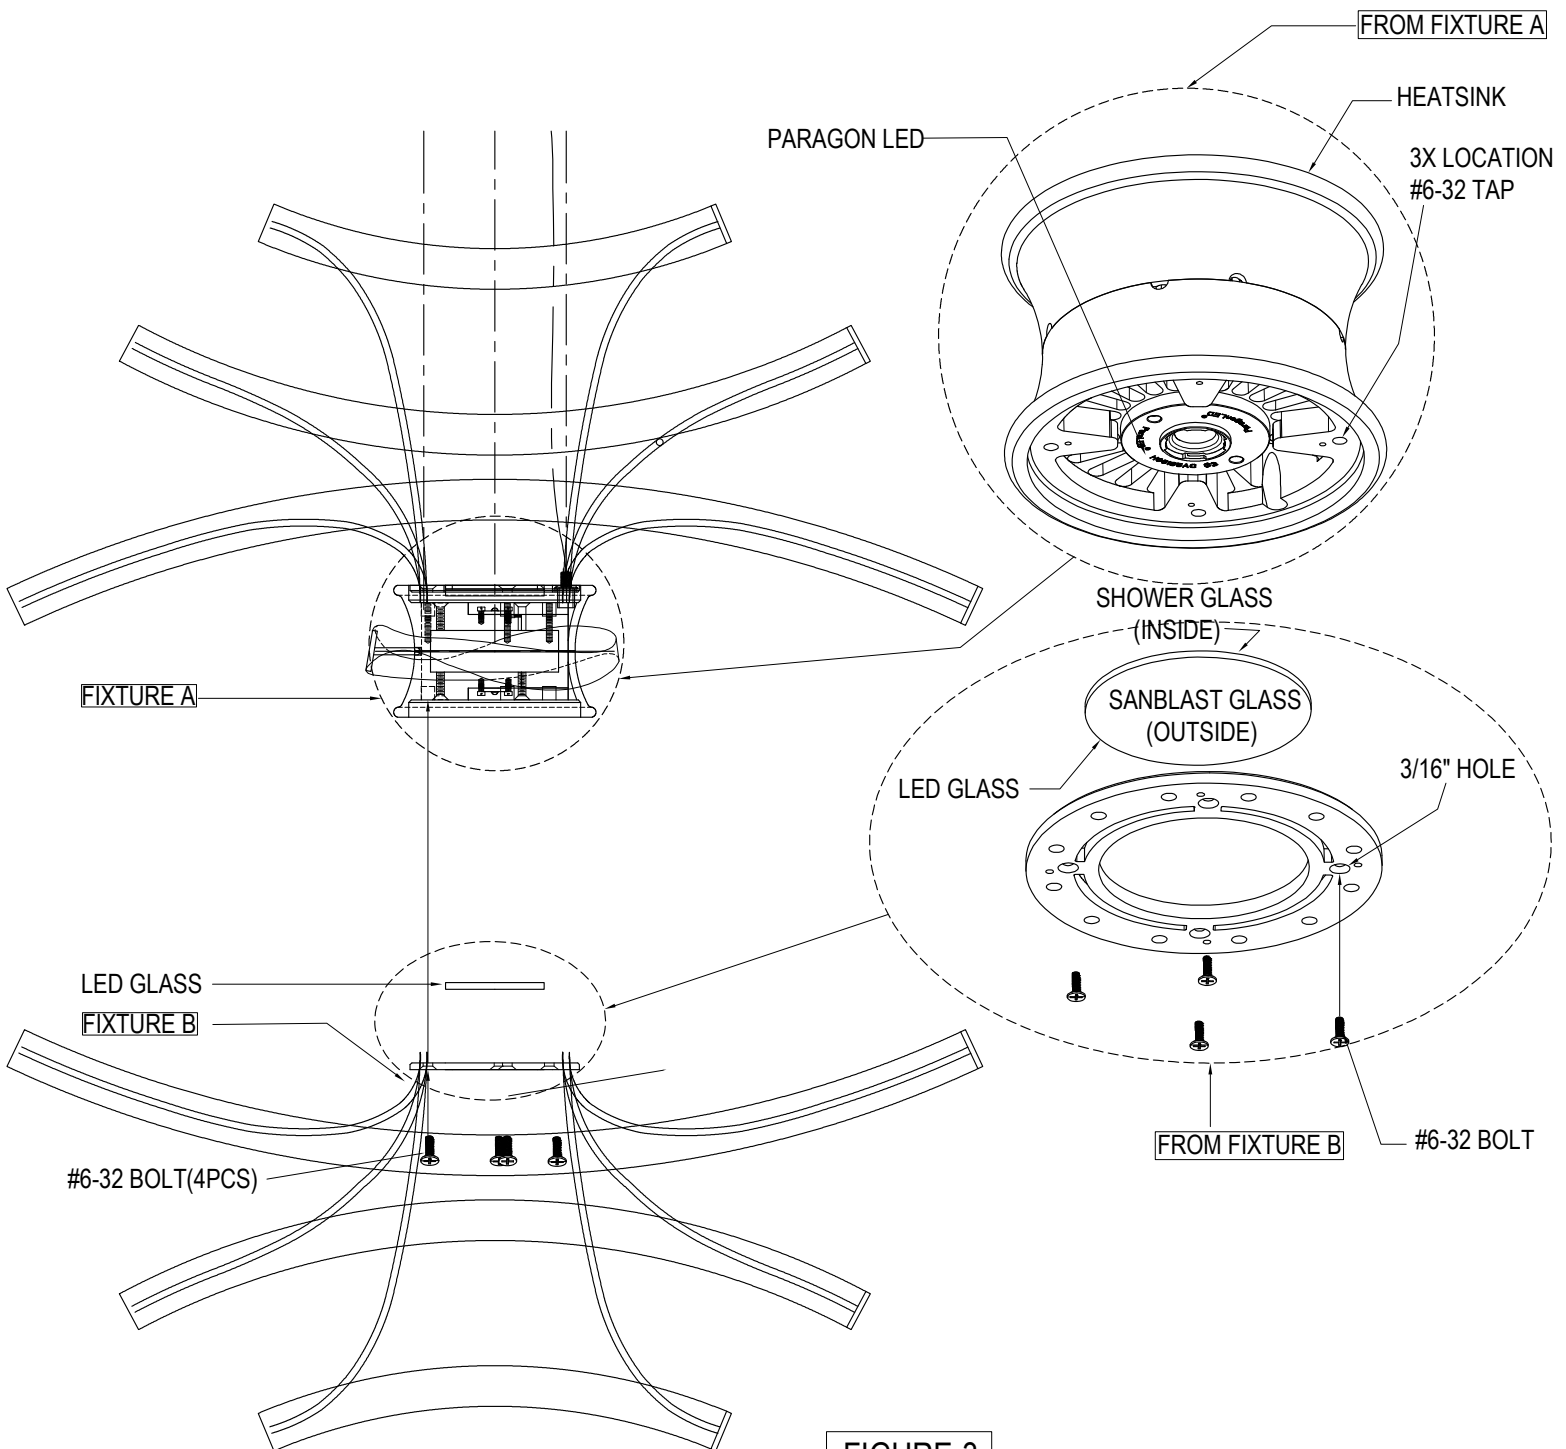

FIGURE-3
2. Identify Fixture B, place the glass on the top of fixture. Refer to Figure-3.
3. On top of Fixture B look for a dot sticker/markings. Align this to Fixture A wherein same marking will be seen on the bottom of the fixture. Refer to Figure-3.